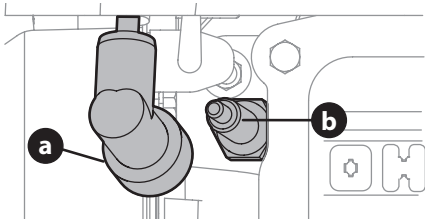

Figure 14
1. Remove the spark plug boot (a) and use a spark plug wrench to remove the spark plug (b) (Figure 14).